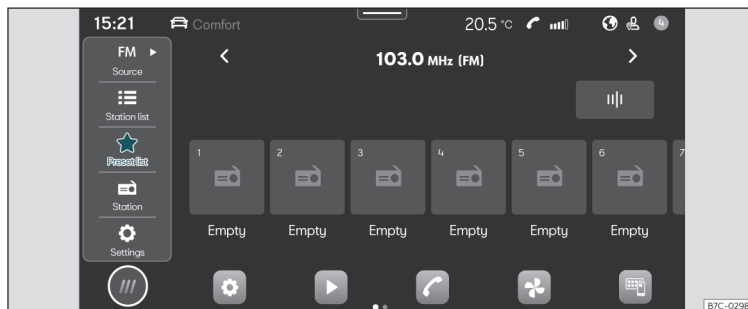

Fig. 132 Schematic representation: Radio view
- Press **HOME** > >>> **Fig. 132**.